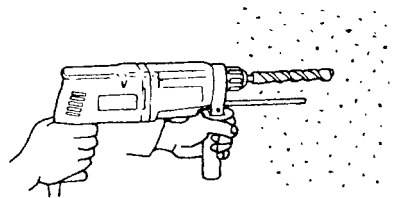

Fig. 6
- (1) Mount the drill bit.
- (2) Pull the trigger switch after applying the drill bit tip to the drilling position. (Fig. 6)
- (3) Pushing the rotary hammer forcibly is not necessary at all. Pushing slightly so that drill dust comes out gradually is just sufficient.
When the drill bit touches construction iron bar, the bit will stop immediately and the rotary hammer will react to revolve. Therefore please grip the side handle and handle tightly as shown in Fig. 6.